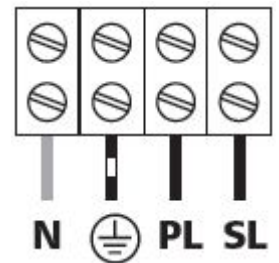

Fig 4
- For the **SS-OYL-395mm-248P-23W-SMD** emergency versions(see Fig 4):